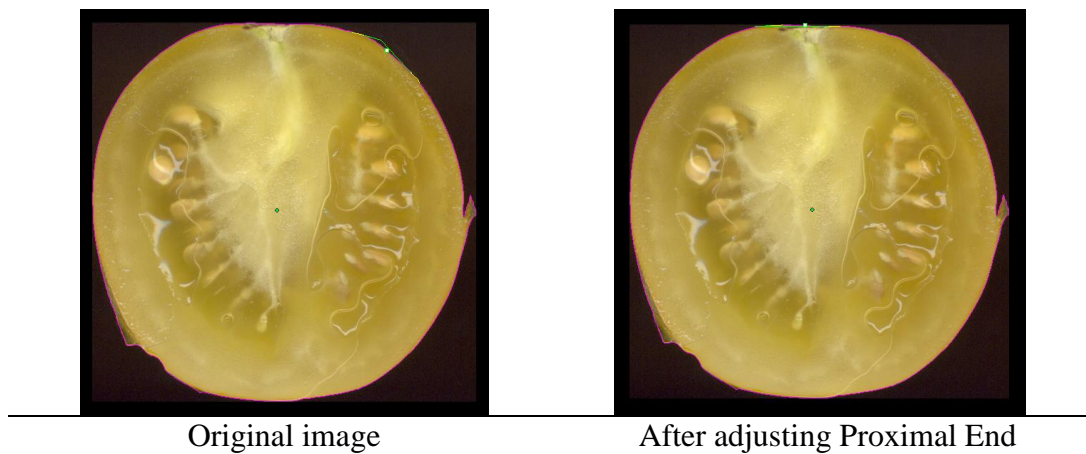

Figure 9 Adjusting the proximal endpoint
- In the upper-right window, click and drag the vertex indicator to the correct position (see Figure 9).